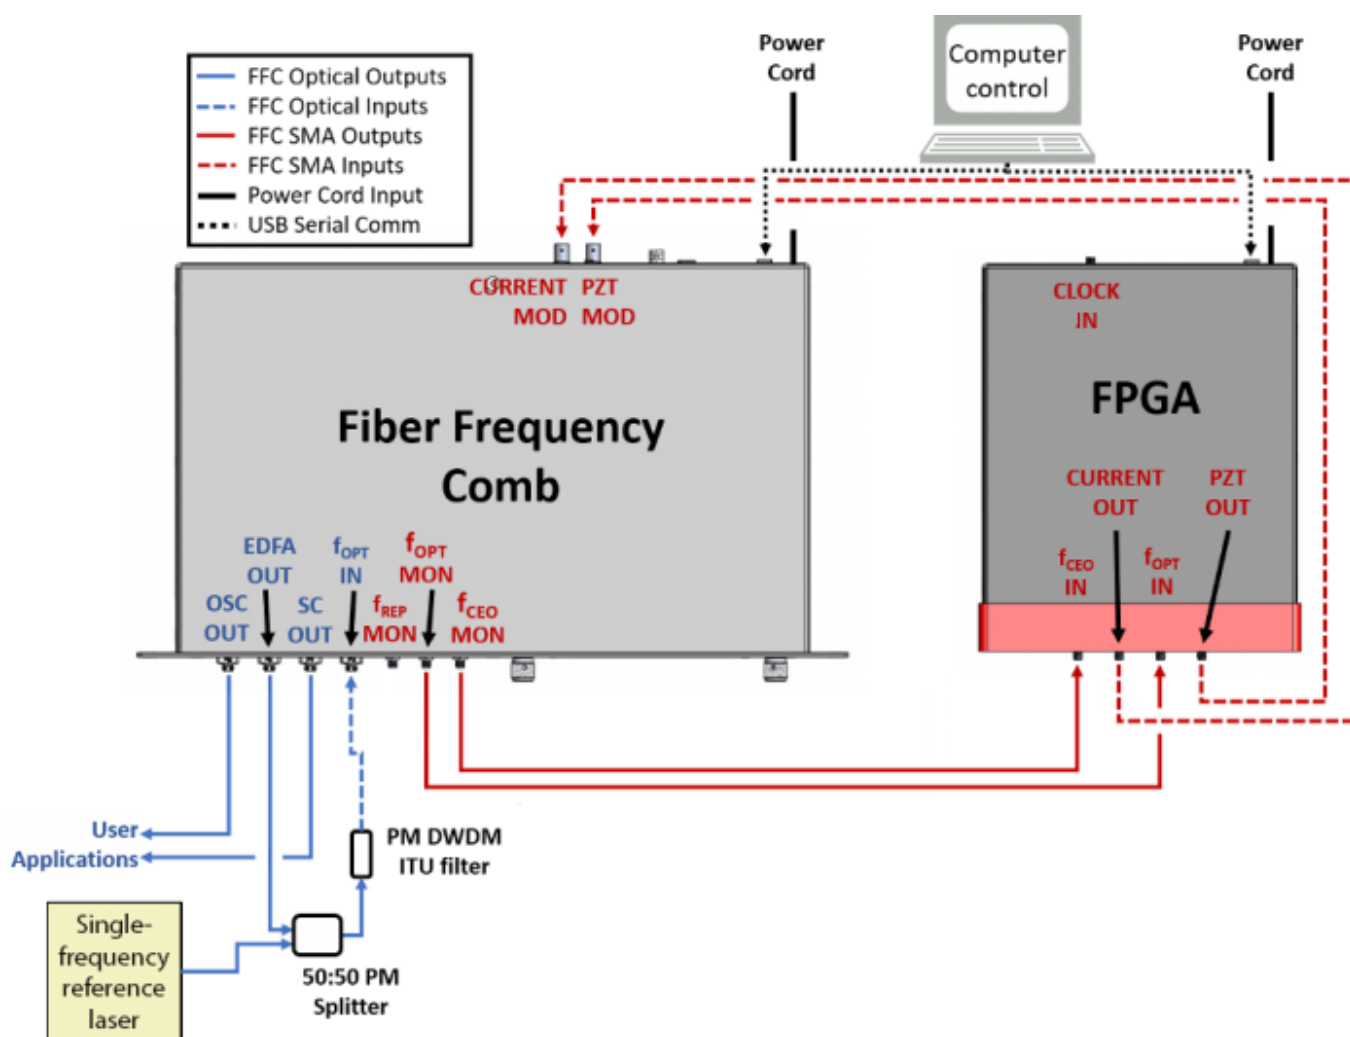

Fig. 22: FFC-100 electrical and optical connection diagram (Click for larger image)
2. Ensure all cables and fibers are connected according to the connection diagram shown in figure 22.5) Use of the internal FPGA clock is recommended.